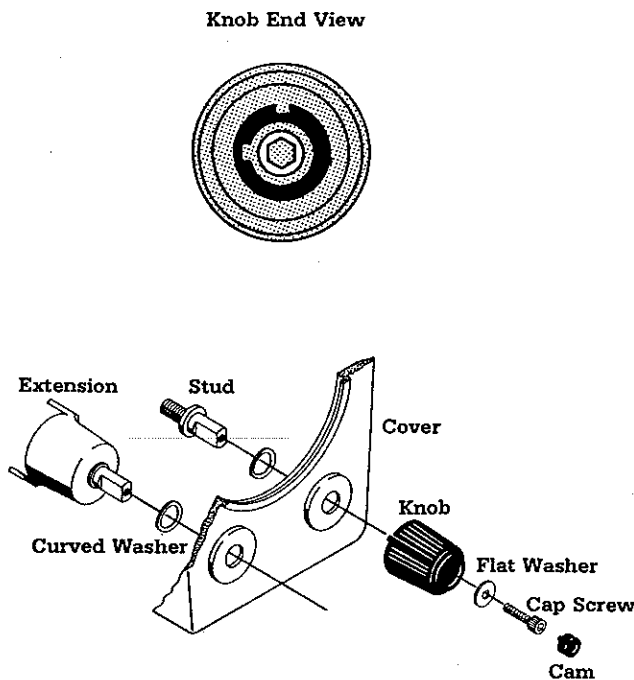

Figure 10
- a. Assemble the cap screw, flat washer, knob, cover, curved washer and stud in the order shown in the exploded view Figure 10).